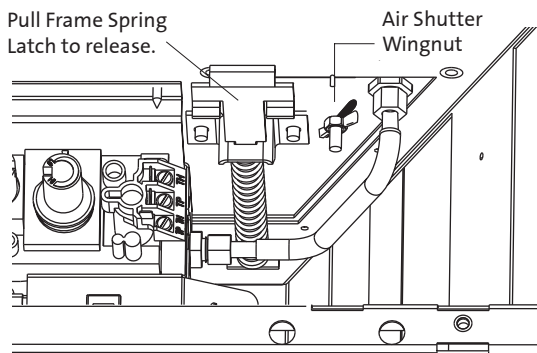

Figure 29. Frame latch and air shutter stem location.
- Loosen the locknut on the Air Shutter Stem, located under the firebox floor to the right of the Control Valve. Pull the stem forward as far as it will go. This will allow you to disengage the Burner Assembly. See fig. 29.